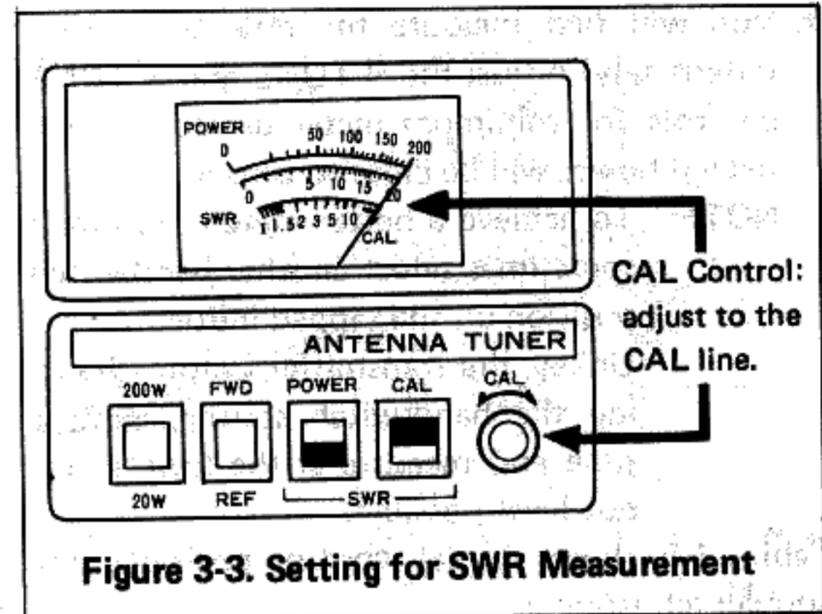

Figure 3-3. Setting for SWR Measurement
- a. Set the controls as illustrated in Figure 3-3. Set the ANT switch to the "THROUGH" position to which the desired antenna is connected.